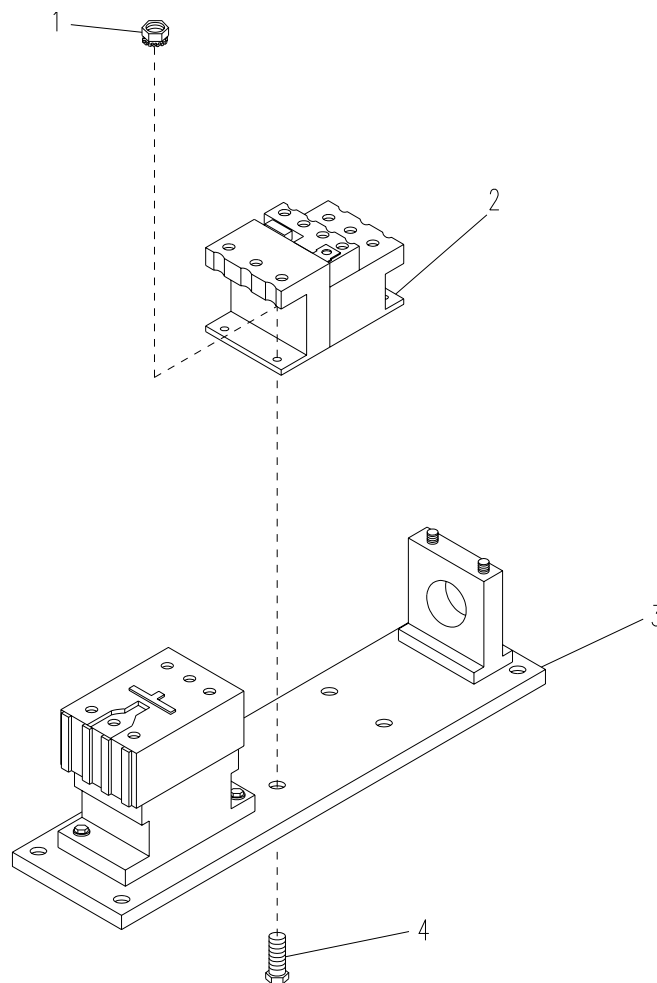

Figure 5-10. Overload Relay
- a. Tag and remove electrical leads from terminals L1, L2, and L3 of overload relay (2, Figure 5-10) by loosening three screws.
- b. Remove two nuts with captive washers (1) and two bolts (4) and remove overload relay (2) from contactor mounting plate (3).
- c. Install overload relay (2) on contactor mounting plate (3) and secure with two bolts (4) and nuts with captive washers (1).
- d. Reconnect electrical leads to terminals L1, L2, and L3 of overload relay (2) and secure with three screws.